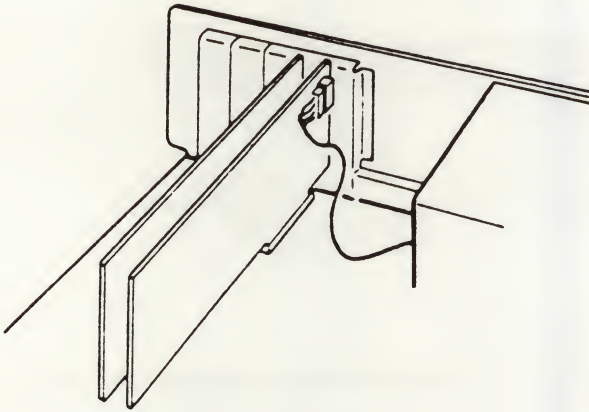

Figure 3-15 Applying Power to the Tape Controller
7. **FOR EXTERNAL TAPE DRIVES WITHOUT POWER SUPPLY ONLY:** Locate an available power lead (twisted wire cable with plastic four-pin connector) inside your system and apply it to the tape controller card as shown in Figure 3-15.